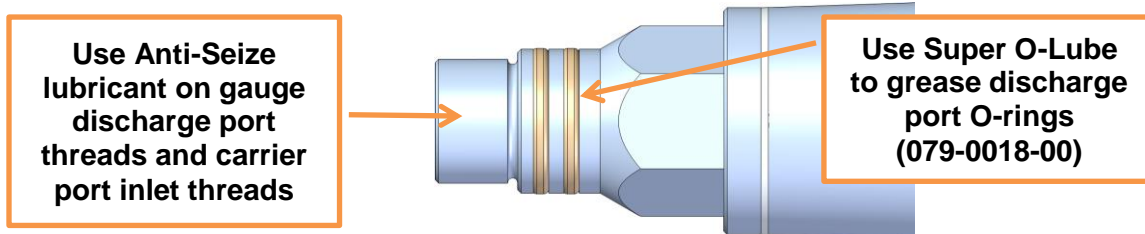

Figure 4. Apply anti-seize to threads and Super O-Lube to O-rings.
2. Apply anti-seize lubricant on threads of gauge and carrier inlet threads. Use Super O-Lube on O-rings. Figure 4.
3. Install O-rings (079-0018-00) and Super O-Lube as per **Figure 4**.